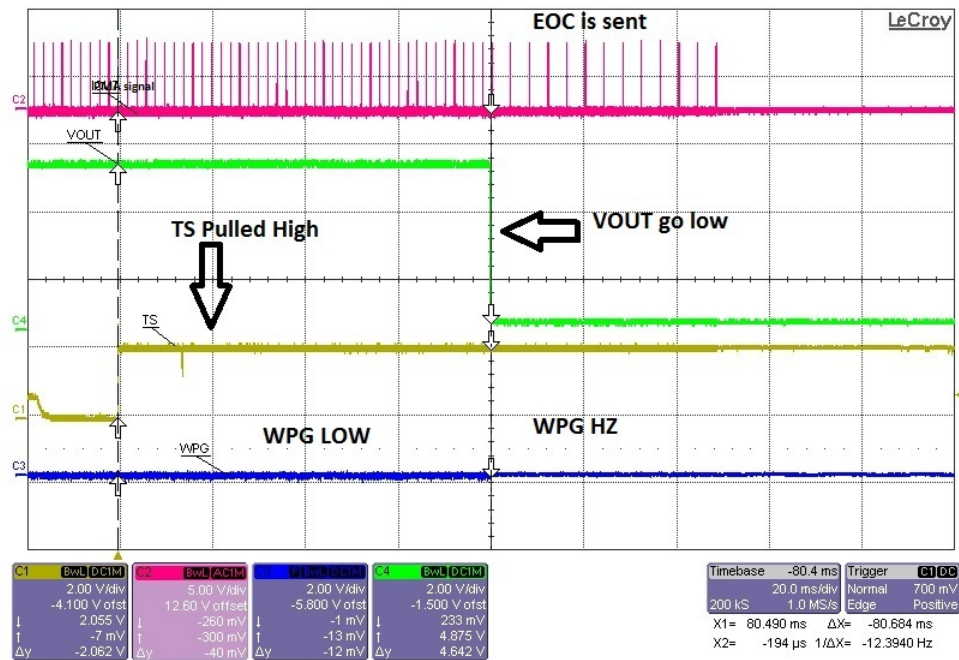

Figure 5. TS Control Function
- Monitor the TS pin, PMA signal (If a test fixture is used—to see End of Charge), $\overline{WPG}$, and output voltage as shown in Figure 5